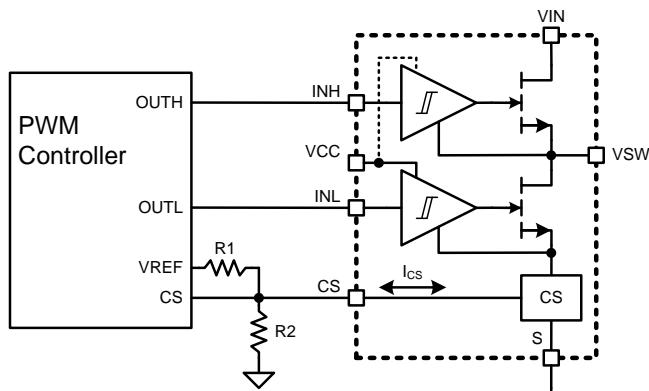

Fig. 30 Bidirectional CS System Schematic
The current flowing through the internal low-side GaN power FET is sensed internally and then converted to a current at the current sensing output pin (CS). An external resistor divider (R_1, R_2) is connected to the CS pin and is used to set the amplitude of the CS pin voltage signal (Fig. 30). This allows for the CS pin signal to work with different controllers with different current sensing input thresholds. It is recommended to place the resistor divider close to the CS pin for improved robustness against system noise. The resistor divider is driven by an external voltage, allowing it to set the midpoint voltage at an arbitrary level. Positive current through the GaN power FET will result in a current out of the CS pin, increasing the voltage at the midpoint of the resistor divider, and negative current through the GaN power FET will result in a current into the CS pin, reducing this voltage. The CS pin current is a function of the gain factor and the absolute current in the power transistor (see Equation 1). Care should be taken in the choice of resistor values, to ensure that the voltage range corresponding to full positive to full negative current is adequately positioned within the ADC input voltage range, and the maximum voltage at the CS pin (see Equation 2).